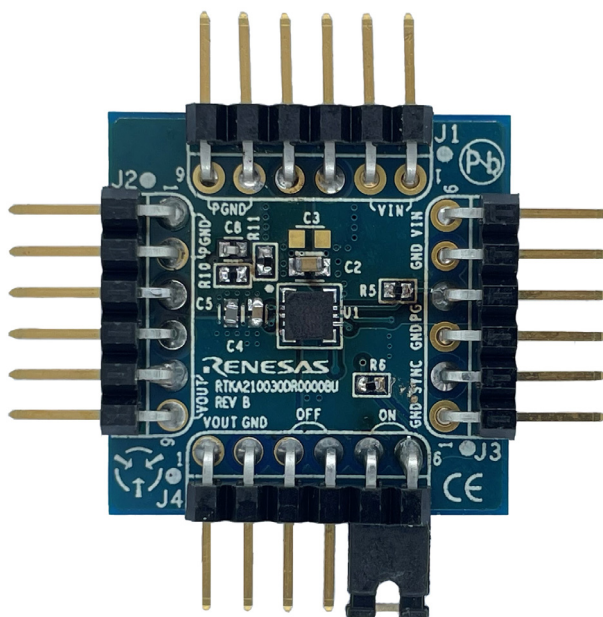
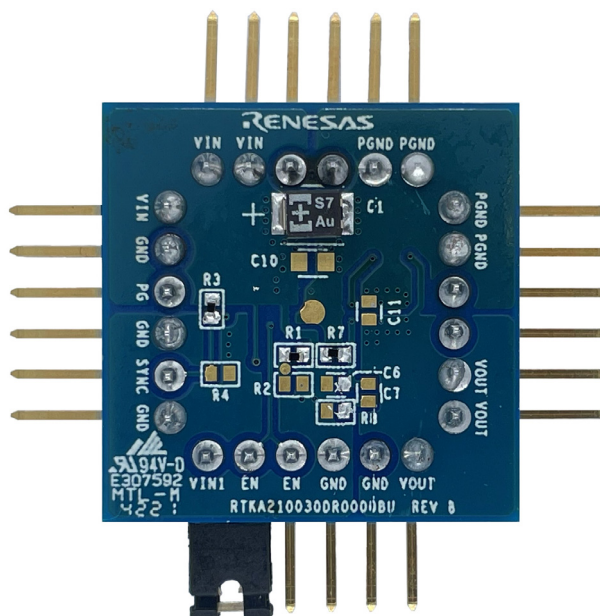

Figure 2. RTKA210030DR0000BU Evaluation Board (Top)
Figure 3. RTKA210030DR0000BU Evaluation Board (Bottom)
The RTKA210030DR0000BU demonstration board (shown in Figure 2 and Figure 3) features the RTKA210030DR0000BU. Capable of delivering up to 3A of continuous current, the RAA210030 is a compact, synchronous step-down, non-isolated complete power supply that is optimized for space-constrained applications. The RTKA210030DR0000BU is based on a peak current mode PWM control scheme that provides a fast transient response and excellent loop stability. The switching frequency is programmable from 500kHz to 4MHz with either the external resistor or synchronization to an external clock through the SYNC pin.
The RTKA210030DR0000BU provides the peripheral circuitry to demonstrate the feature set of the RAA210030. The demonstration board includes several connectors that simplify the validation of the module. The module is enabled and disabled by moving the jumper across the J4.3-J4.6 as shown in Figure 2. Selecting features like external frequency synchronization is performed by removing the pull-up resistor  $R_3$  of the SYNC pin and connecting the signal generator (square pulse waveform clock signal) to J3.2 of the SYNC pin. The output voltage (0.6V - 5V) and the switching frequency (500kHz to 4MHz) are programmed by changing the resistors as shown in Table 1.
1. Disable the module by connecting the jumper across 3 and 4 on J4 for the EN pin as shown in Figure 2 and Figure 7.